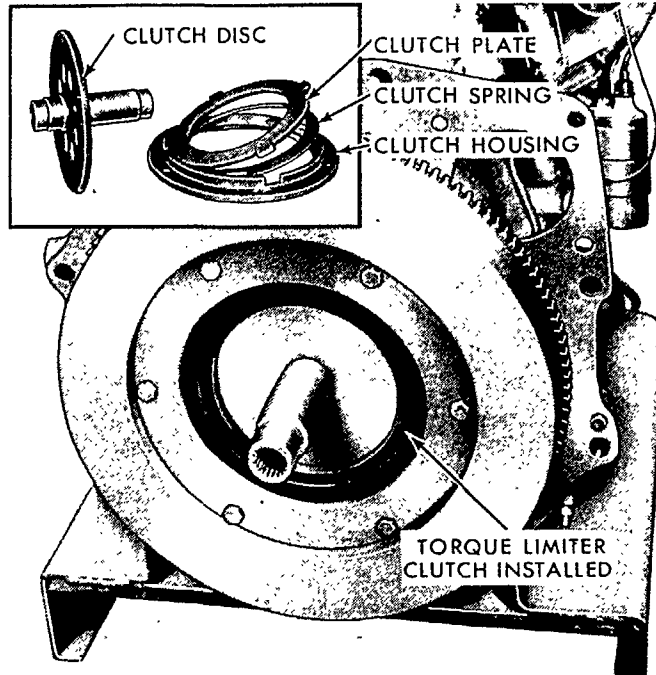

Figure 88
1. Remove the six bolts securing the clutch housing to the engine flywheel. Hold the housing so it does not drop from the flywheel. Refer to Figure 88.
2. Remove the clutch housing, spring washer, pressure plate, and clutch disc. See Figure 88.